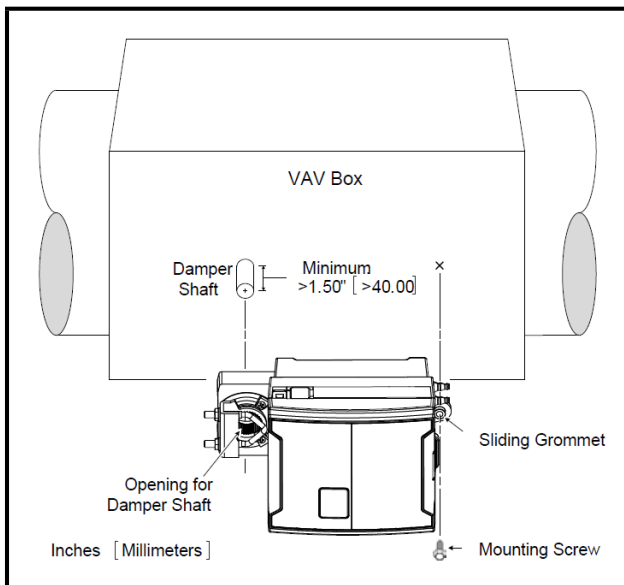

Figure 2-3 - VAV Damper Shaft Standard Mounting Diagram
3. Screw the controller onto the VAV box through the controller's Sliding Grommet. The sliding grommet allows the controller to move back and forth when the VAV box's damper shaft is off center. Ensure to center the grommet along its travel range and ensure that the screw enters the VAV box at a right angle. Using a power screwdriver with a 6" extension (Figure 2-6), attach the controller to the VAV box with the 1" [25mm] screw provided with the controller (Figure 2-7) through the controller's sliding grommet as shown in Figure 2-3. Otherwise, mark the positions for the screw on the VAV box with a punch and then drill a hole into the VAV box. Then attach the controller to the VAV box with the 1" [25mm] screw provided with the controller.
11. Finalize the installation by rotating the damper to the full open position. See *Figure 2-3*.